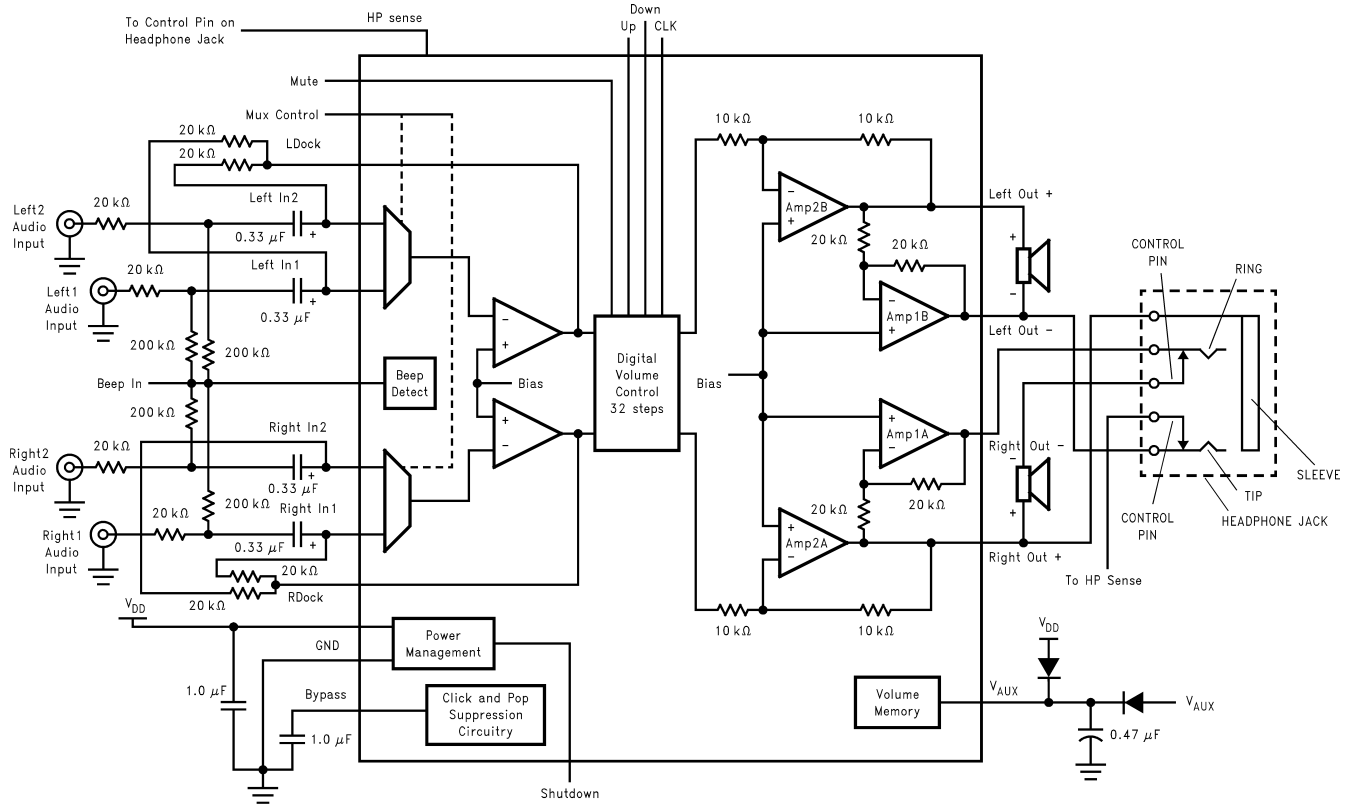

Figure 1. LM4840 Block Diagram
- (1) All voltages are measured with respect to the ground pins, unless otherwise specified. All specifications are tested using the typical application as shown in Figure 1.
- (2) *Absolute Maximum Ratings* indicate limits beyond which damage to the device may occur. *Operating Ratings* indicate conditions for which the device is functional, but do not ensure specific performance limits. *Electrical Characteristics* state DC and AC electrical specifications under particular test conditions which ensure specific performance limits. This assumes that the device is within the Operating Ratings. Specifications are not ensured for parameters where no limit is given, however, the typical value is a good indication of device performance.
- (3) Typical values are specified at $25^\circ C$ and represent the parametric norm.
- (4) Datasheet min/max specification limits are specified by design, test, or statistical analysis.
- (3) Typicals are specified at $25^\circ C$ and represent the parametric norm.
- (5) When driving 3Ω loads from a 5V supply the LM4840LQ and LM4840MH must be mounted to the circuit board and forced-air cooled.
- (6) When driving 4Ω loads from a 5V supply the LM4840LQ and LM4840MH must be mounted to the circuit board.